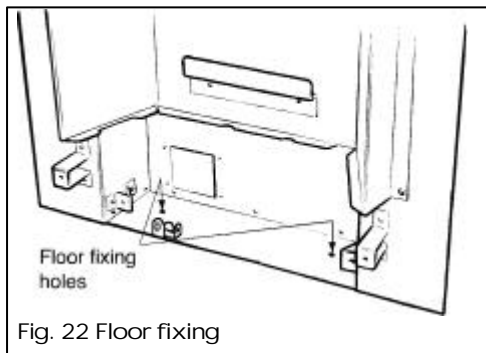

Fig. 22 Floor fixing
- 7.2.9 Drill a hole into the fireplace floor through each of the two holes in the base of the convection box, using a no.12 masonry drill (see figure 22).